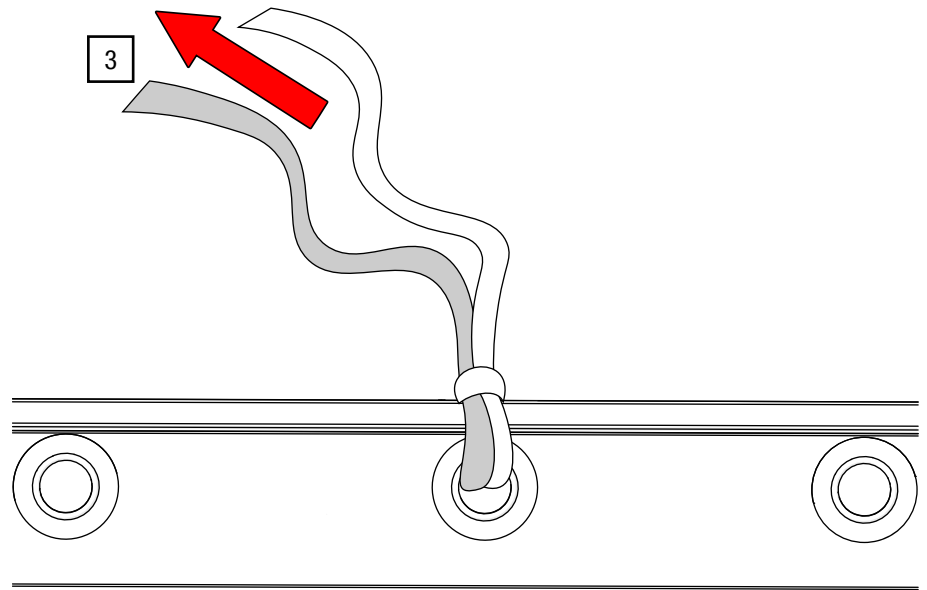

Fig. 91: Tie line – Tighten
3. Pull the line tight and repeat the steps for all curtain eyelets (see Fig. 91).